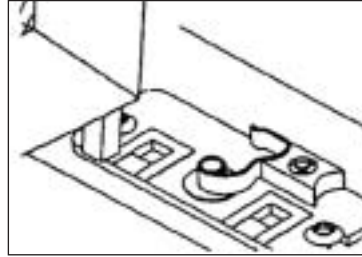

Fig. 2A
2. Lift the door up and out to disengage the bottom door pin from the mounting plate, and rest the door on the bottom of the frame (figure 2A).
2. Remove the locking pin (figure 2a).